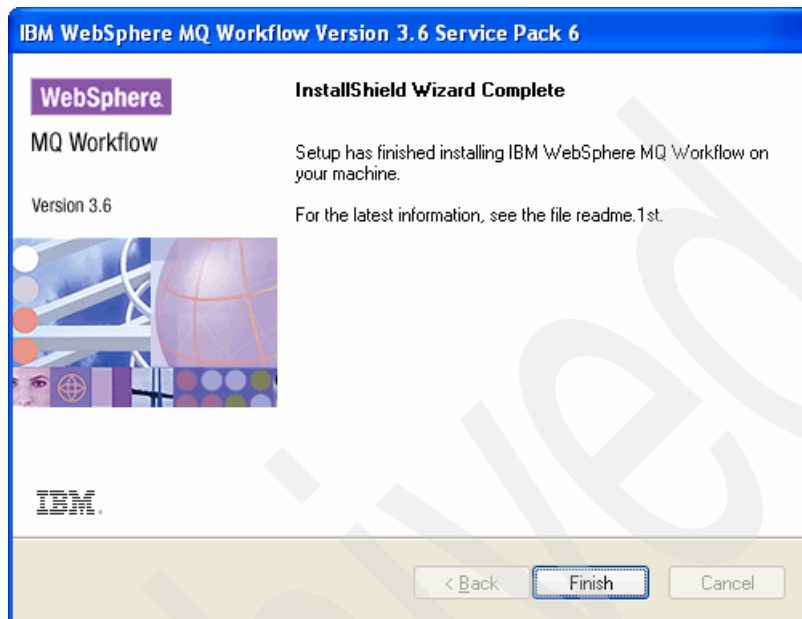

Figure 8-8 WebSphere MQ Workflow ServicePack 6 completion page
5. In the completion window (Figure 8-8), click **Finish** to complete the installation of WebSphere MQ Workflow ServicePack 6.